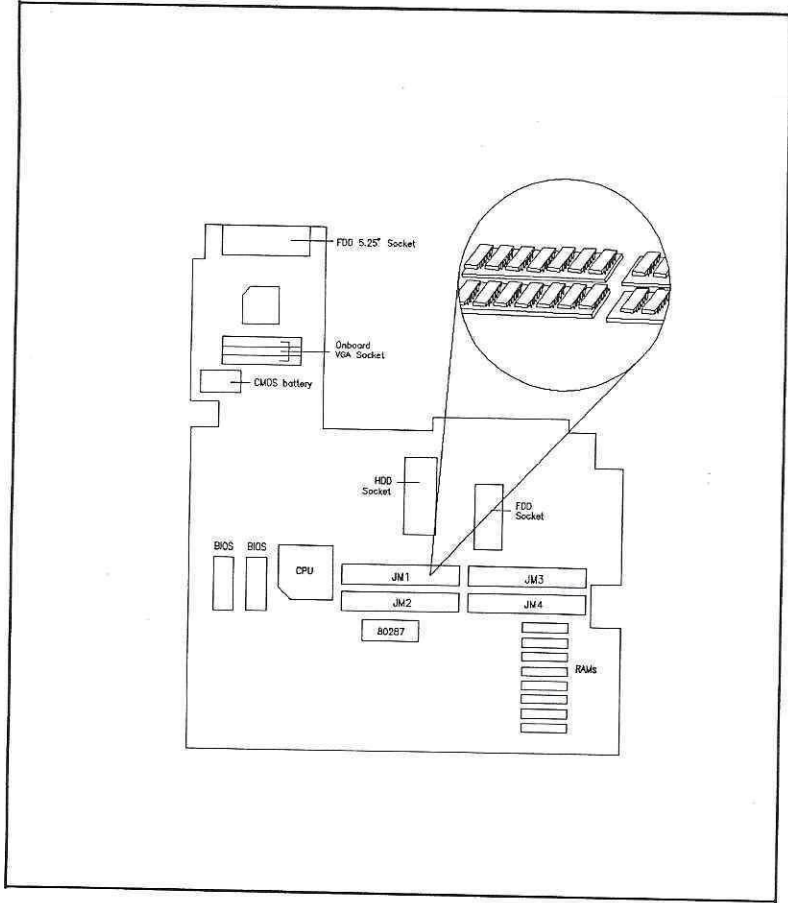

Figure 3-1. Memory Expansion Module Sockets
1. Locate the memory module sockets (Figure 3-1). Begin by inserting the first in the top socket (banks JM1 and JM3).
2. Figure 3-1 illustrates the correct orientation of the memory expansion module and the angle at which it should be held to insert. For each socket, the first memory expansion module must be inserted in the left-most slot (JM1) and the second memory expansion module in the right-hand slot (JM3).